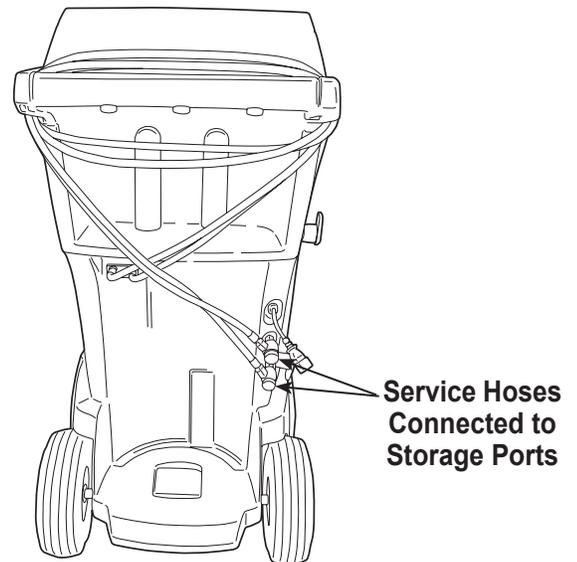

Figure 1
2. When prompted, connect the service hoses from the machine to their storage ports as shown in Figure 1. Select ►► to continue.